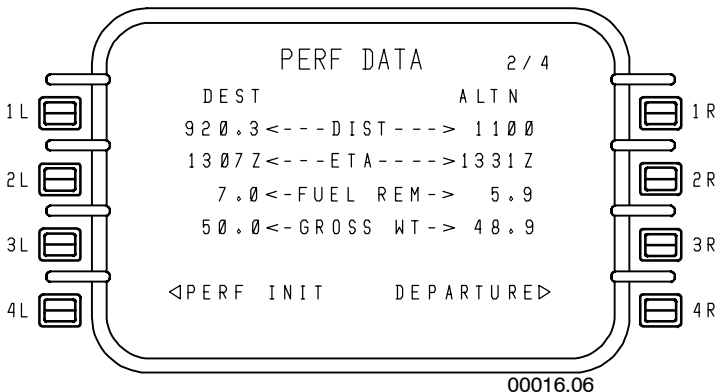

Figure 5-22
- **PERF DATA 2/4** - Figure 5-22 is a display-only page. No entries are permitted. It displays the calculated data listed below.